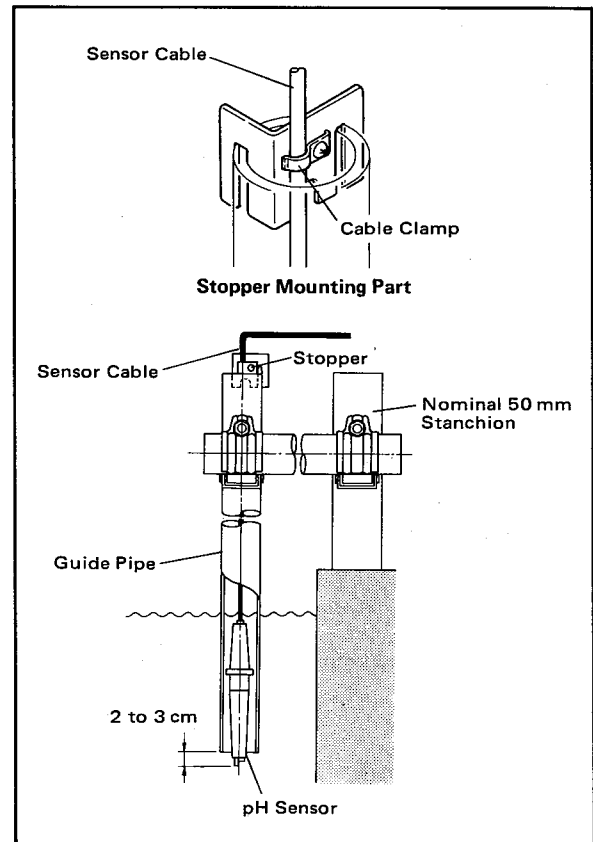

Figure 2-3. Sensor Installation in the Guide Pipe.
- (5) Attach the stopper supplied with the guide pipe to the sensor cable. Fix the sensor cable by fixing the cable clamp so that the sensor tip projects 2 to 3 cm from the pipe end when the pH sensor is suspended in the guide pipe as shown in Figure 2-3.